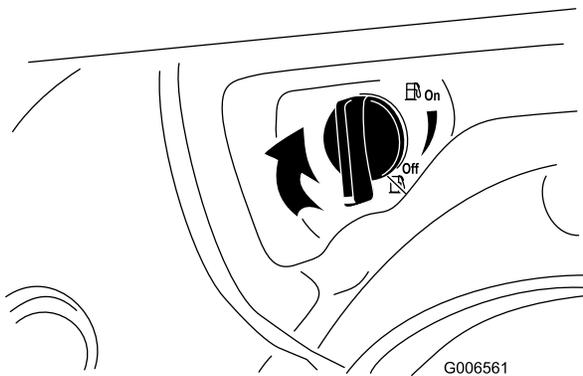

Figure 34
- Close the fuel shutoff valve by rotating it clockwise (Figure 34).